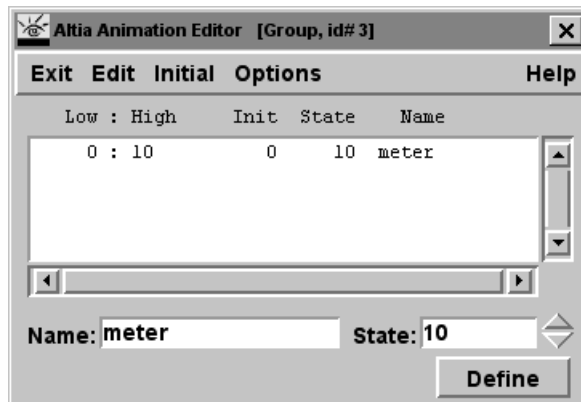

FIGURE 3-5 The meter Animation
9. In the Animation Editor, change the **State** field to 10, press Enter and then click **Define**. We have now defined an animation named `meter` from states 0 to 10 for the needle group as shown in Figure 3-5. Try changing the meter animation to a value between 0 and 10 by using the decrement button to the right of the State field. Pretty neat, huh?